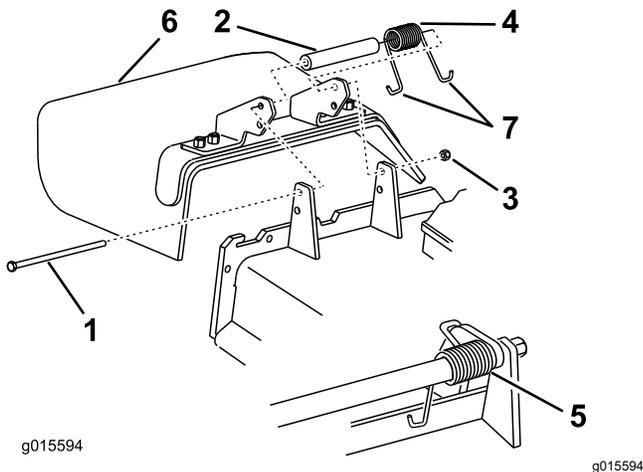

Figure 85
**Note:** Make sure that 1 J-hook end of spring is installed behind deck edge before installing the bolt as shown in Figure 85.